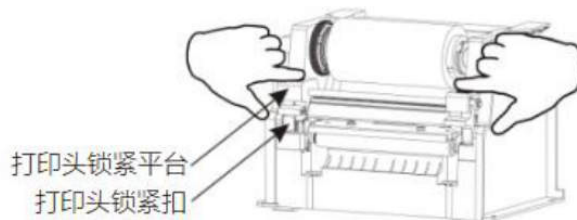

图9
2.7.4 如图 9,用手捏住打印头两端打印头锁紧扣，以打开打印头模块。
2.7.4 As shown in Fig. 9, pinch the printhead locking clips at both ends of the printhead with your hands to open the printhead module.